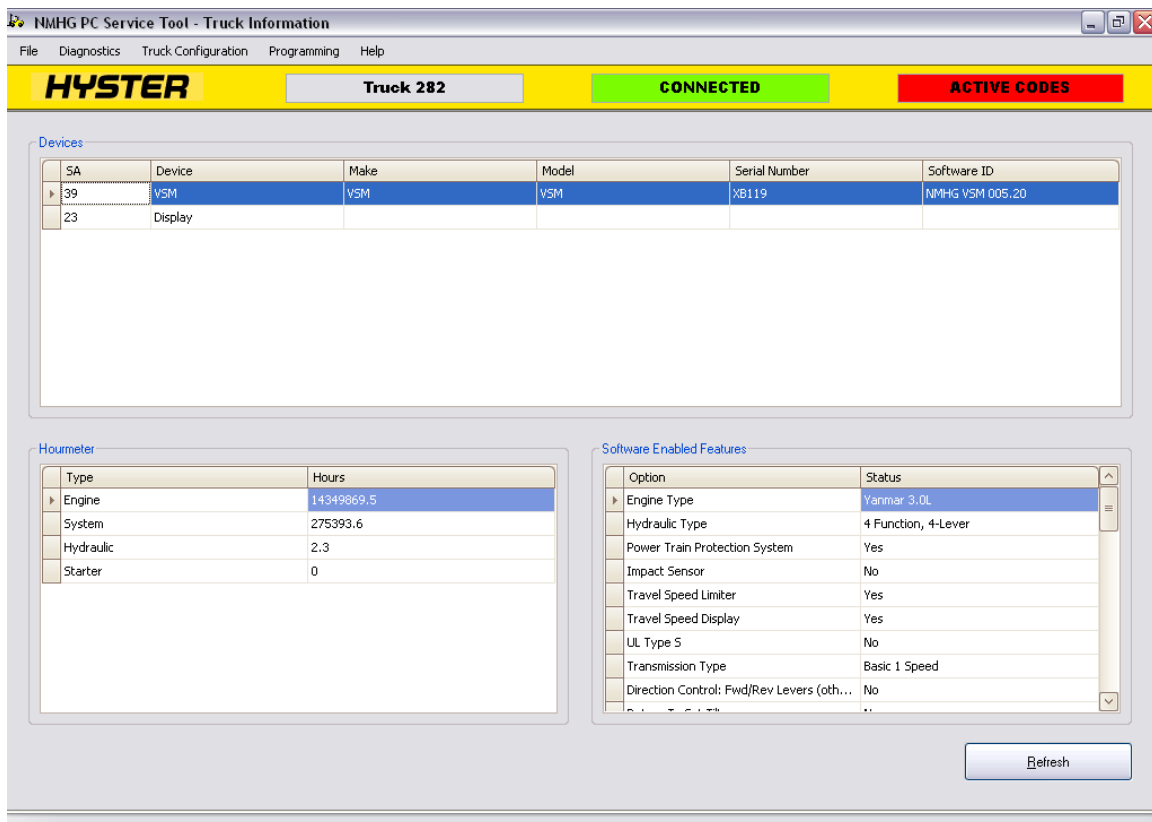

Figure 12: Truck Information Window
- Select **Diagnostic >>Truck Information**. This displays the Truck Information screen as depicted in Figure 12: